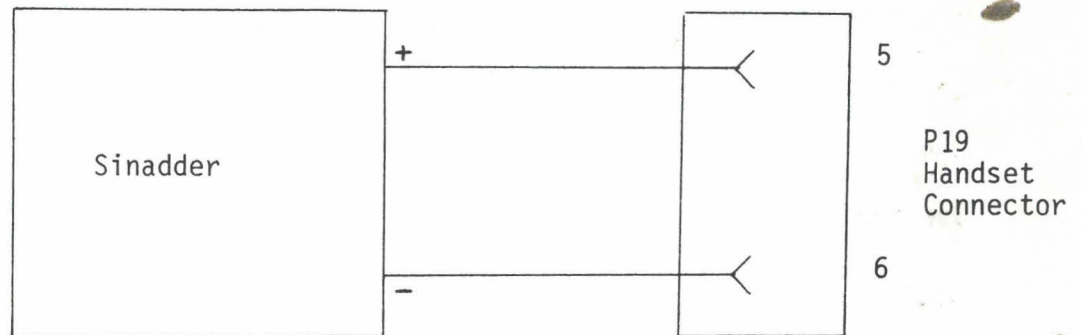

Figure 2
6. Tune the signal generator to the selected channel frequency, with no modulation. Open the squelch and adjust the signal level until the noise in the speaker is slightly quieted. Couple the 21.4 MHz signal generator into the M3 module. Listen for the beat note. Adjust the reference oscillator tuning 6L1, if necessary, while listening for zero beat. Connect a sinadder to Handset Connector P9 as in Fig. 2.